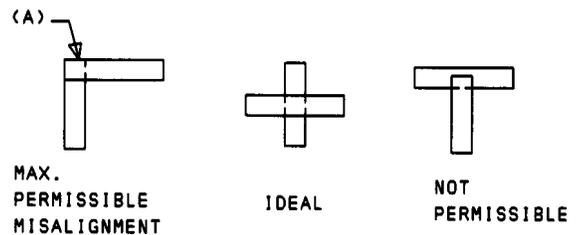

Fig. 2—Alignment of Contacts—Plan View of Contact Surfaces
2.03 **Contact Alignment**—Fig. 2 (A): The contacts shall line up so that the width of the contact surface of each contact bar falls wholly within the length of its mating bar. Gauge by eye. Refer to 3.04 for adjusting procedures.